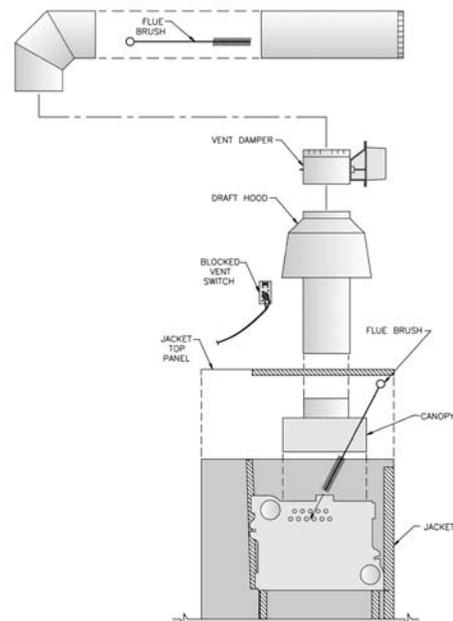

Figure 29: Cleaning of Vent System and Boiler Flues
- G. Remove all accumulations of soot with wire brush and vacuum, see Figure 29. Remove all obstructions. Replace all deteriorated parts and support properly. Seal all joints.
3. CLEANING BOILER FLUES, see Figure 29. Flue passageways in the boiler sections should be checked annually for any blockage or accumulation of soot. To obtain access to flueways:
If the flue passageways need cleaning, remove burners as described in paragraph 4 below. Using long handle wire or bristle flue brush and vacuum, brush flueways thoroughly from top of boiler as illustrated in Figure 29. Replace canopy and seal with boiler putty. Reinstall Jacket Top Panel, draft hood, blocked vent switch, damper (if boiler is so equipped), and vent pipe.